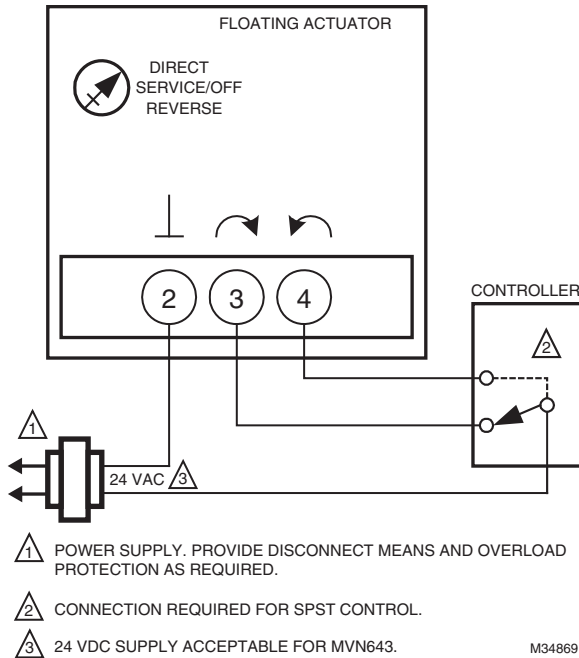

Fig. 16. MN6105 with On/Off Control.
2. Wire actuator using Figures 16 through 32 for the application required.